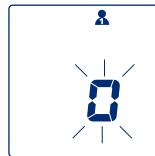

Figure 2
- After the device has completed its calibration against the ambient air pressure (Figure 2), the automatically controlled inflation process starts. The cuff slowly inflates during the measurement procedure.